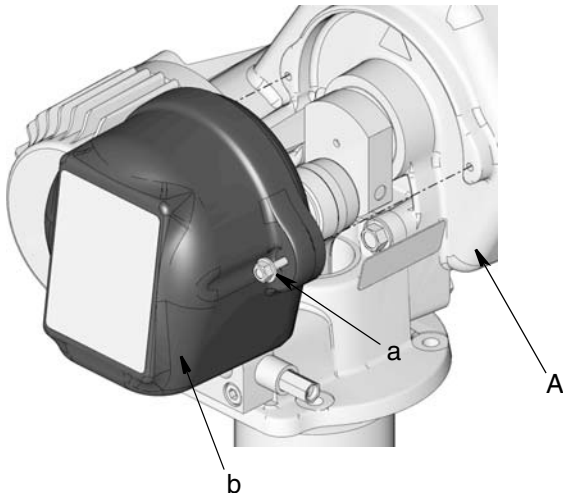

FIG. 3
1. Disconnect Dyna-Star pump (A) from main power source.
3. Loosen bolts (a) and remove cover (b) from Dyna-Star pump (A) (FIG. 3). Save these parts to use for installation.